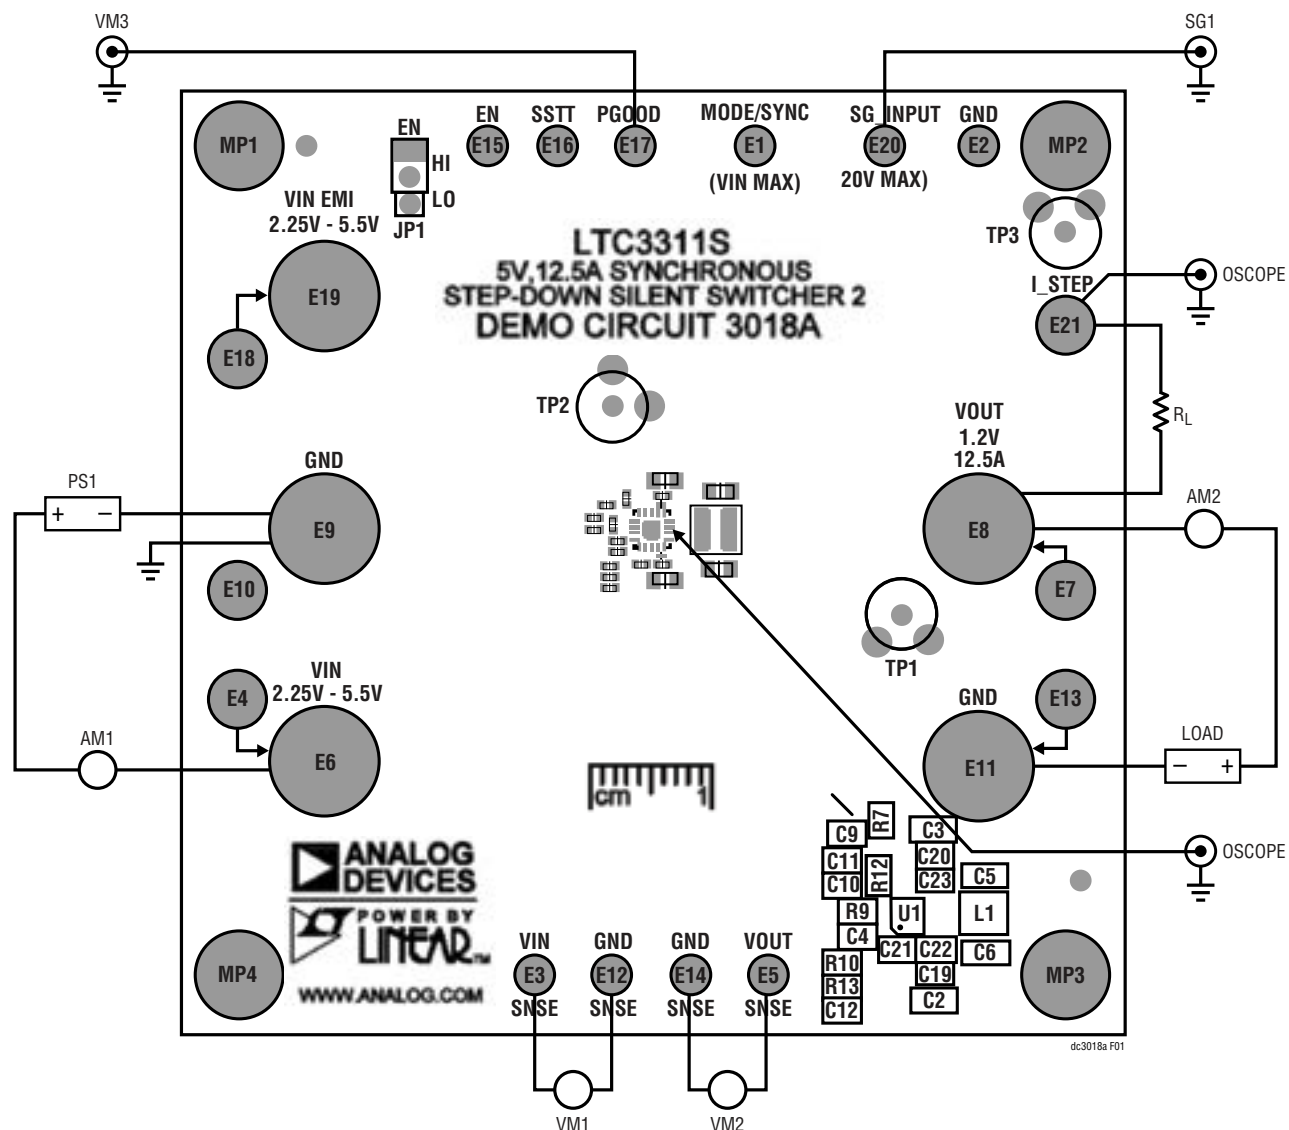
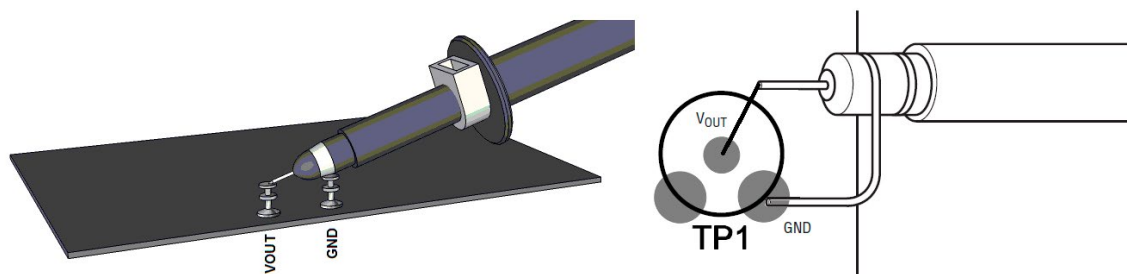

Figure 1. Test Setup for the DC3018A Demo board
Figure 2. Technique for Measuring Output Ripple and Step Response
Demonstration circuit 3018A is easy to set up and evaluate the performance of the LTC3311S. Refer to Figure 1 for proper measurement equipment setup and follow the procedure below:
NOTE: For accurate V_{IN} , V_{OUT} and efficiency measurements, measure V_{IN} at the VIN SNSE and GND SNSE turrets and V_{OUT} at the VOUT SNSE and GND SNSE turrets as illustrated as VM1 and VM2 in Figure 1. When measuring the input or output voltage ripple, care must be taken to avoid a long ground lead on the oscilloscope probe. Measure the output voltage ripple by touching the probe tip directly across the output turrets or to TP1 as shown in Figure 2.
3. Slowly increase PS1 to 1V. If AM1 reads less than 20mA, increase PS1 to 3.3V. Verify that VM1 reads 3.3V and VM2 reads 1.2V. Record VM1, VM2, VM3 AM1 and AM2. Connect an oscilloscope voltage probe as shown in Figure 2. Set Channel to AC-coupled, voltage scale to 20mV and time base to 10 μ s. Record V_{OUT} ripple voltage. Verify that PGOOD voltage is above 3V. Calculate die temperature using formula below:
4. Increase the load by 1A intervals up to 12A and observe the voltage output regulation, ripple voltage, and the voltage on the SSTT turret. Observe the switching waveform by contacting a second voltage probe, set to 1V scale, to the SW node of UI pins 6, 7, 8 and 9 as shown in Figure 1.
7. To test the transient response with a base load, add the desired resistor to produce a minimum load between VOUT and I_STEP turrets (R_L shown on Figure 1). Note that the total load resistance will be R_L plus R14 (50m Ω). Adjust a signal generator with a 10ms period, 10% duty cycle and an amplitude from 1V to 2V to start.